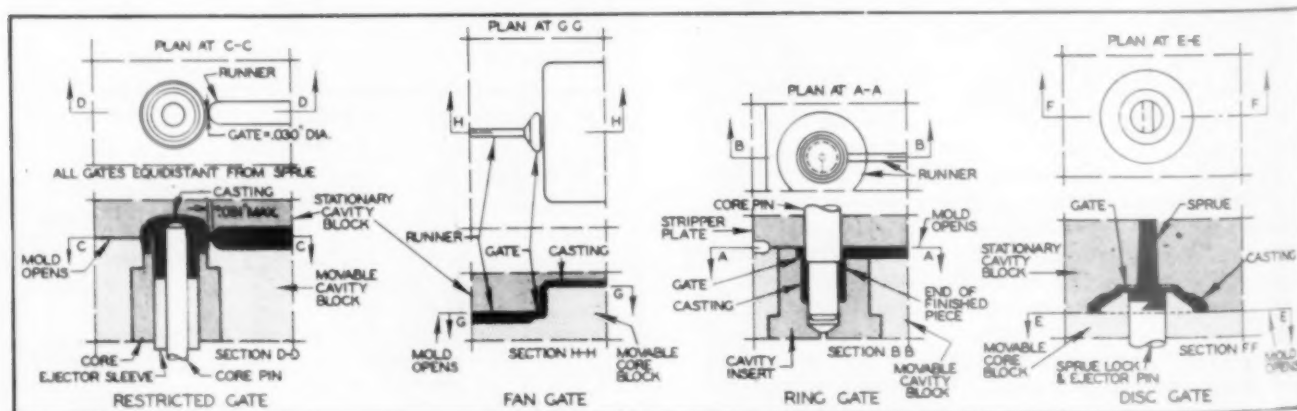

Fig. 1 Above are shown four typical gate designs which reduce air entrapment and aid casting finish.
7. Considerations of the sprue size, runner size, and gate size is a "must" in designing molds for good workability. Also to be considered is the location of the gate to the part to insure a strong casting and eliminate air trapping, weld lines, and bad finish in general. When it is advisable spot the gate on the mold, to leave an alternate way to change the mold if possible, since theory and practice do not always coincide. Four typical gate designs are shown in Fig. 1.